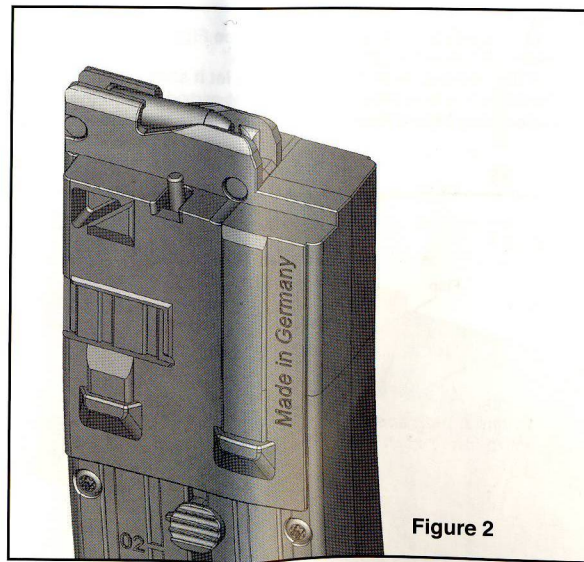

Figure 2
3. Push the bullet to the backside of the magazine. (Figure 2 page 13)
1. Put the safety lever to position „S“ (see Figure 2 page 11)